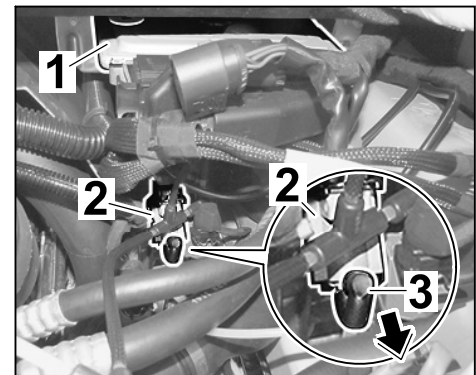

Figure 11
2.4.1 Pull standard vacuum line  $\Rightarrow$  Figure 11 -**3**- off the change-over valve (flap control)  $\Rightarrow$  Figure 11 -**arrow**-.